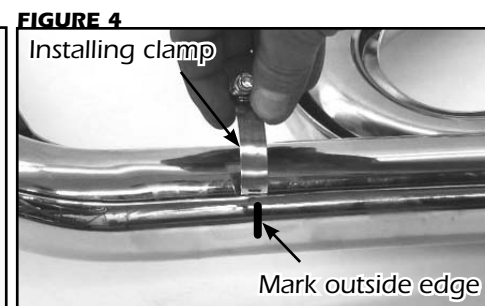

FIGURE 5
5. Install #20 hose clamps by feeding tail end of clamps into heat shield clips (Figure 4). Take note of clamp screw head direction (Figure 5). Screw head must be accessible when system is installed on motorcycle for adjustment purposes.